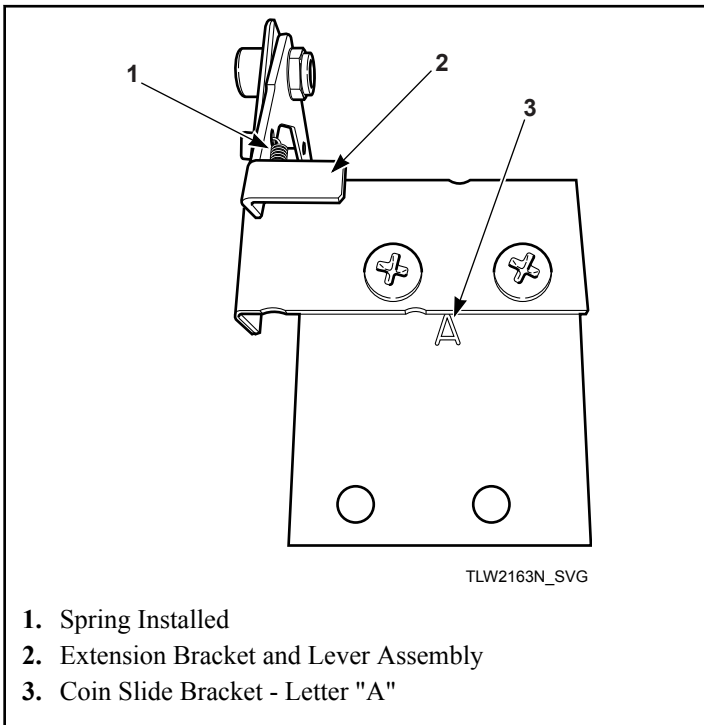

Figure 16
5. Install extension bracket and lever assembly onto coin slide bracket using two screws and locknuts. Refer to *Figure 16*.
IMPORTANT: Install coin slide bracket with side marked "A" facing up and toward extension bracket and lever assembly. Refer to *Figure 16*.